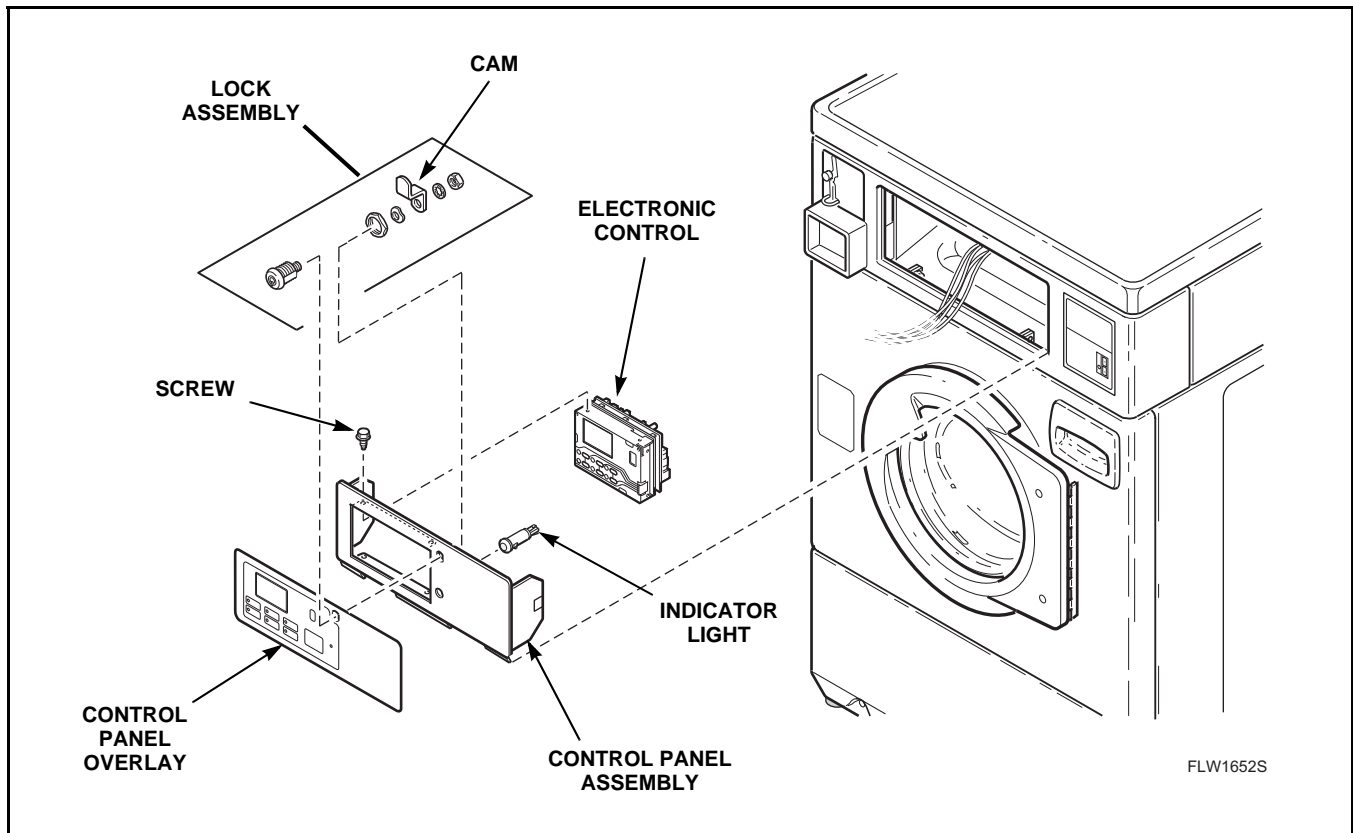

Figure 18
- Squeeze locking tabs together and pull light out rear of control panel. Refer to *Figure 18*.
- e. Remove four screws holding electronic control assembly to backside of control panel. Refer to *Figure 18*.
- g. While holding new control by its metal edges, place control in opening of control panel and fasten control down with four screws removed in step “e”. Refer to *Figure 18*.
**NOTE:** For proper control alignment, tighten the top two screws first then tighten the bottom screws. Refer to *Figure 18*.
- (4) Support control panel, press in on locking tabs and unplug harness disconnect blocks from backside of electronic control.
- (5) Remove four screws holding electronic control assembly to backside of control panel. Refer to *Figure 18*.
- (6) Remove lock assembly from control panel. Refer to *Figure 18*. Remove control panel overlay by peeling it from the control panel assembly.
**NOTE: Before removing protective backing from new overlay, check fit of overlay to control panel assembly. Refer to *Figure 18*. Use the lock hole in the control panel as the locating guide.**
- (1) Once panel overlay is fitted to the front of control panel frame, carefully peel protective backing from the left end of panel overlay and press into place.
- (2) Remove rest of protective backing from panel overlay and press overlay into place on control panel assembly.
- (3) While holding control by its metal edges, place control in opening of control panel and fasten control down with four screws. Refer to *Figure 18*.
- (4) Follow wiring diagram and reconnect wires to control.
- (5) Reinstall control panel in control cabinet and lock control panel.